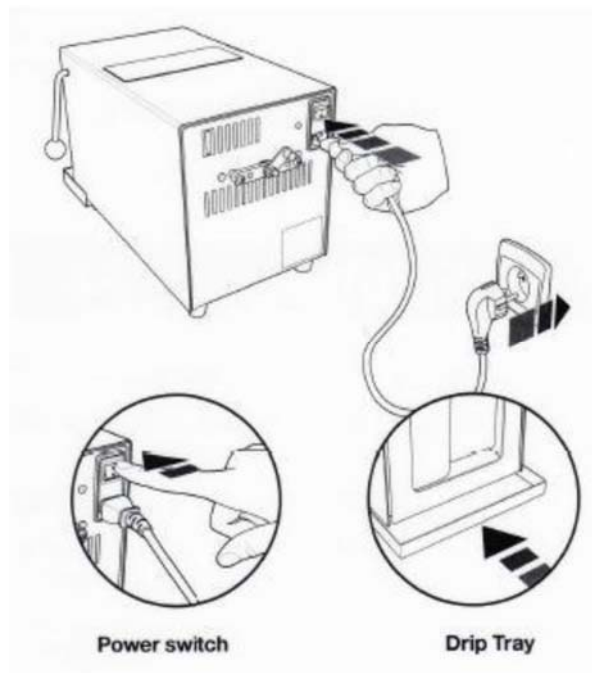

Fig.1
- Plug the mains power cord into the 220-240 V~ mains socket and position the unit so that there is ease access to the instrument. (Figure 1)
- Turn the main switch **ON**. (Figure 1)
- Slide the drip tray under the blending chamber; this will catch any drops or leaks during blending. (Figure 1)